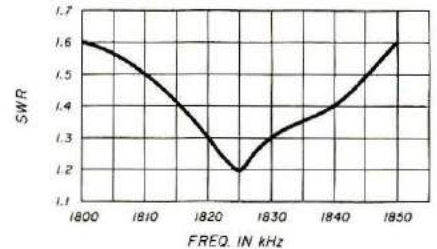

Fig. 2. When the right tap points on the coil are found, the SWR should be low across a good portion of the band.
1.6:1 at 1800 and 1850 kHz, enabling me to operate anywhere in the most heavily populated areas of the band (see Fig. 2). I'm not sure, but I surmise that the tower and triband Yagi have some effect on bandwidth.